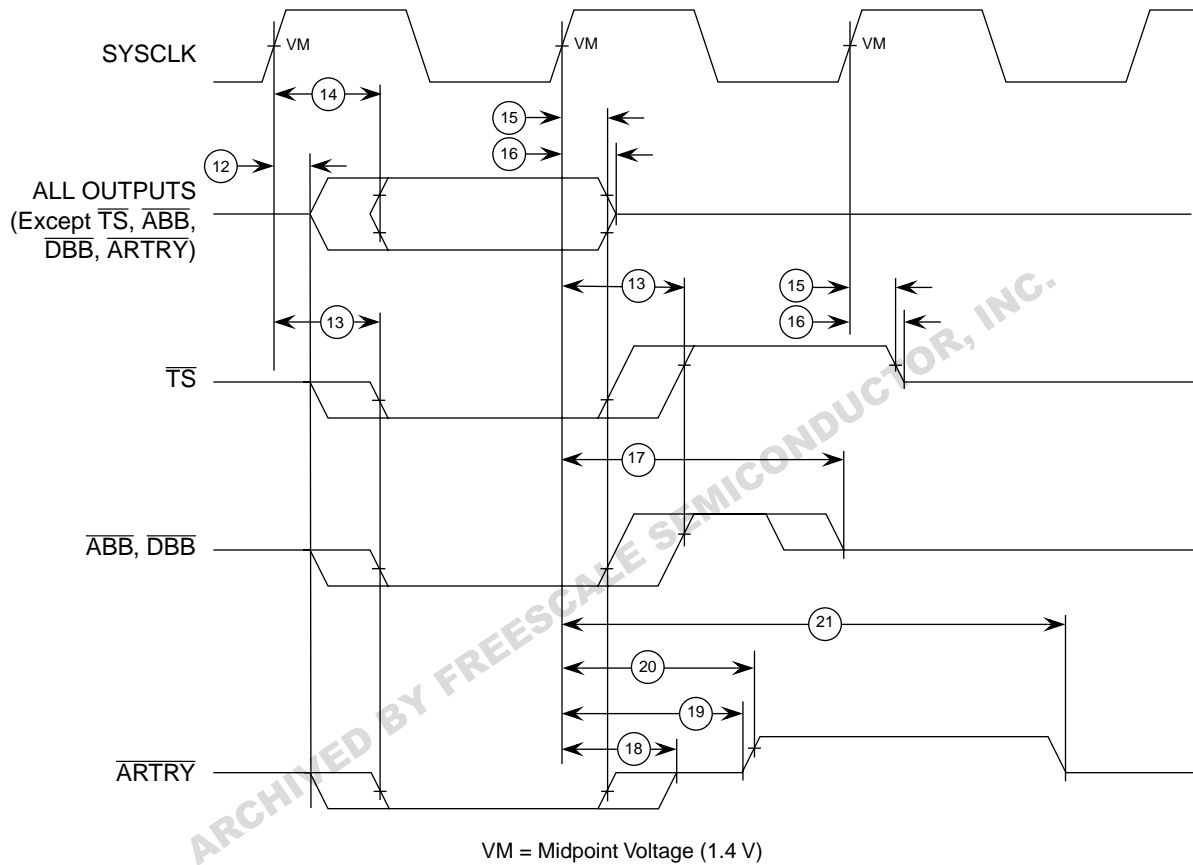

Figure 4. Output Timing Diagram
Table 8 provides the output AC timing specifications for the 603e as defined in Figure 4.
1. All output specifications are measured from the 1.4 V of the rising edge of SYSClk to the TTL level (0.8 V or 2.0 V) of the signal in question. Both input and output timings are measured at the pin (see Figure 4).
Figure 4 provides the output timing diagram for the 603e.